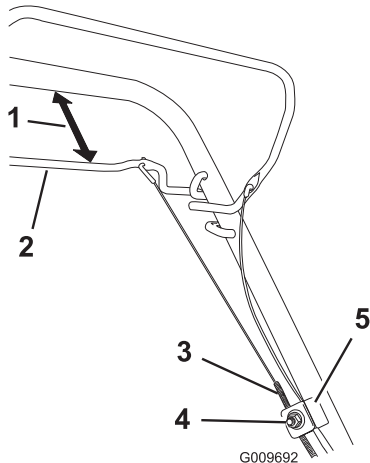

Figure 26
1. Loosen the cable-support nut (Figure 26).
2. Hold the self-propel bail 25 to 38 mm (1 to 1-1/2 inches) from the handle (Figure 26).
3. Pull down the cable jacket (toward the machine) until there is no slack in the cable (Figure 26).